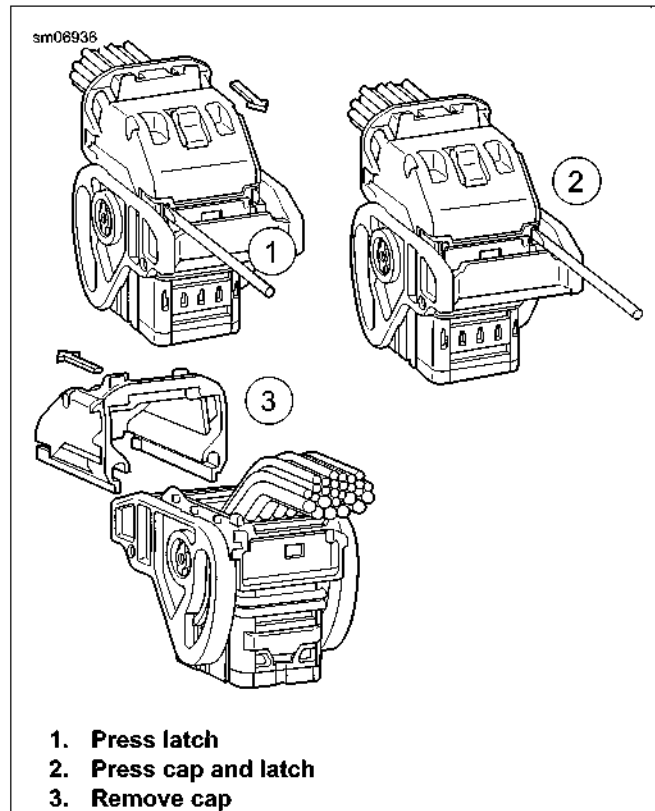
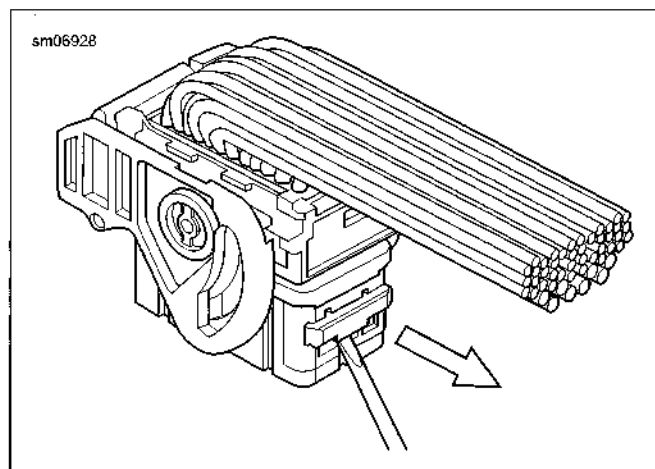

Figure A-43. Remove the Wire Lead Cap
Figure A-44. Molex CMC Sealed Connector Secondary Lock
2. See Figure A-43. Open a wire cap latch (1) with a small screwdriver.
3. Maintain pressure on the cap and open the opposite latch (2) with the screwdriver.
4. Slide the cap off (3).
5. See Figure A-44. Use the screwdriver to open the secondary lock. Pull the locking bar all the way out.